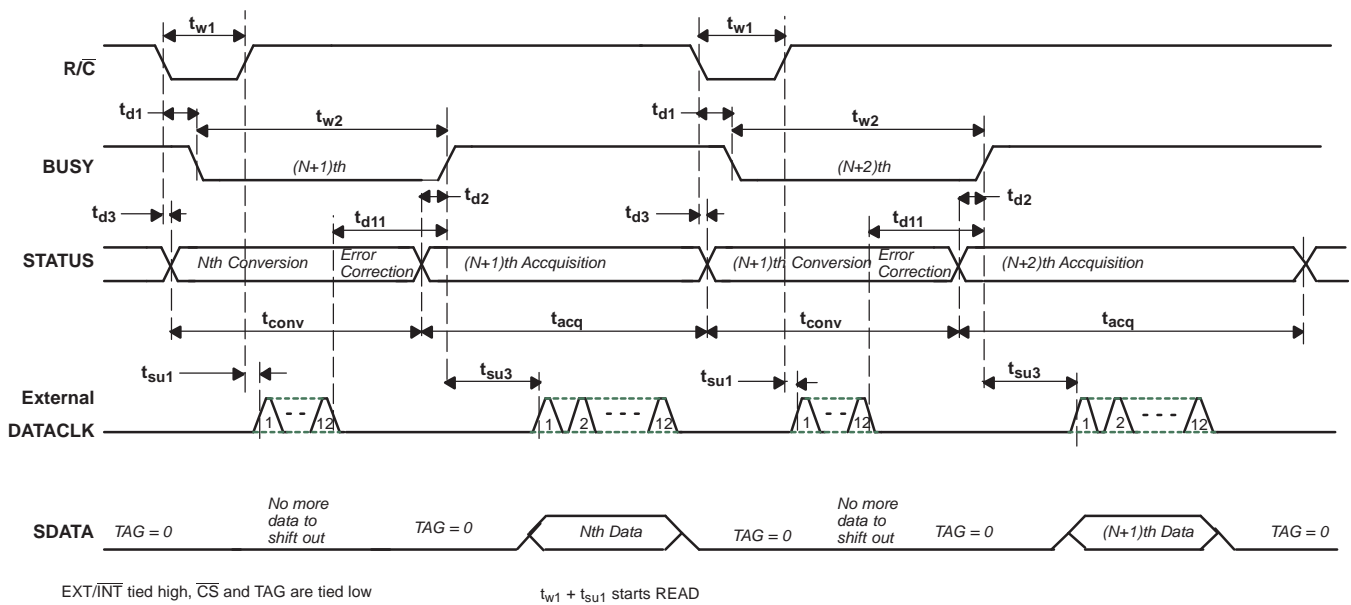
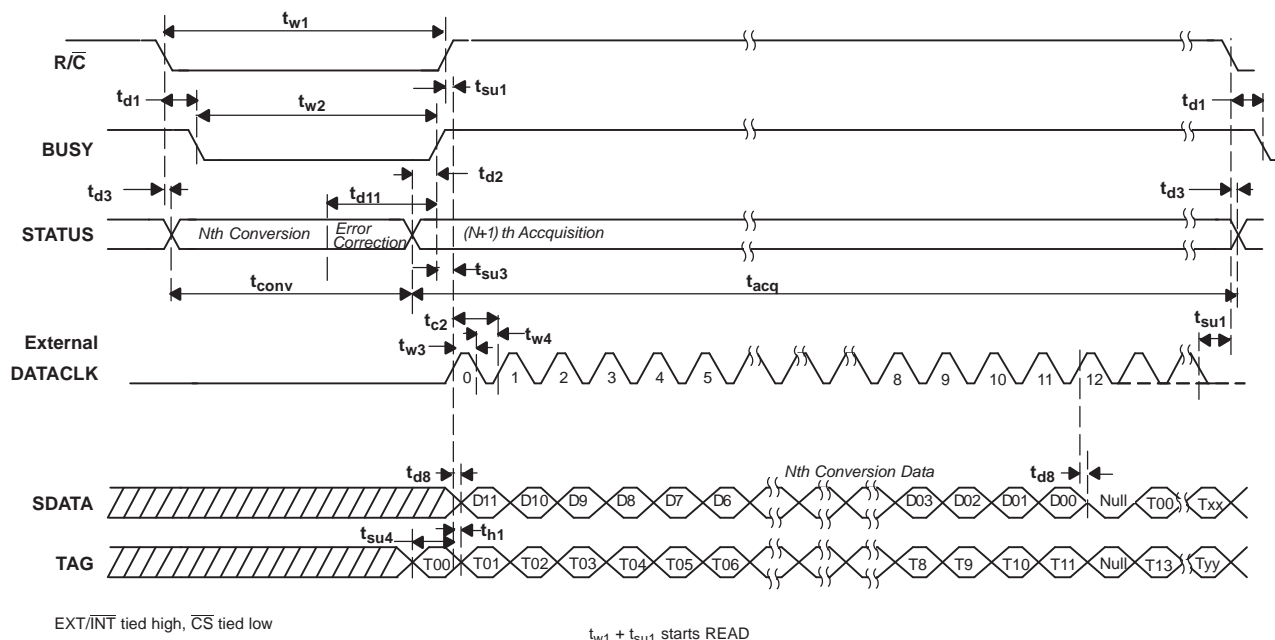
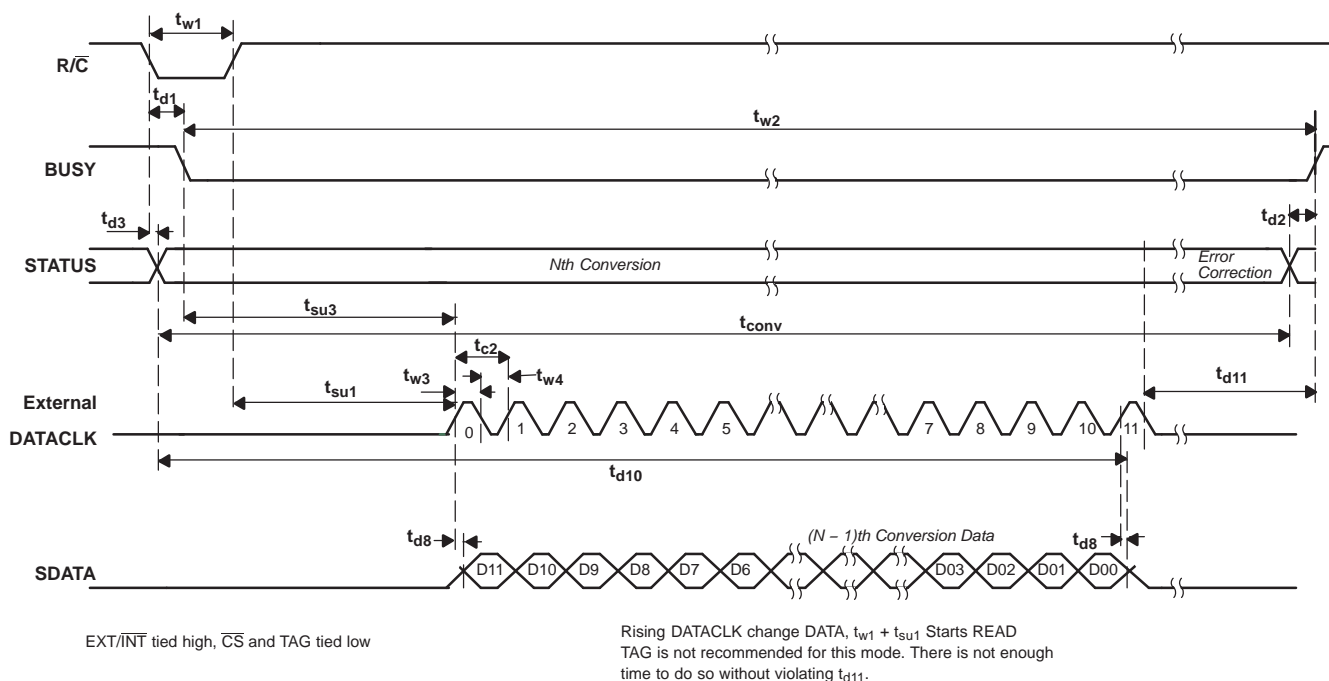

Figure 37. Basic Conversion Timing - External DATACLK
Figure 38. Read After Conversion (Discontinuous External DATACLK)
Figure 39. Read During Conversion (Discontinuous External DATACLK)
(1) See Figure 37, Figure 38, and Figure 39 for constraints on data valid from conversion $N-1$.
After conversion N is completed and the output registers have been updated, $\overline{\text{BUSY}}$ (pin 24) goes high. With $\overline{\text{CS}}$ low and $\text{R}/\overline{\text{C}}$ high, valid data from conversion N is output on SDATA (pin 19) synchronized to the external data clock input on DATACLK (pin 18). The MSB is valid on the first falling edge and the second rising edge of the external data clock. The LSB is valid on the 12th falling edge and 13th rising edge of the data clock. TAG (pin 20) inputs a bit of data for every external clock pulse. The first bit input on TAG is valid on SDATA on the 13th falling edge and the 14th rising edge of DATACLK; the second input bit is valid on the 14th falling edge and the 15th rising edge, etc. With a continuous data clock, TAG data is output on SDATA until the internal output registers are updated with the results from the next conversion. Refer to Table 6 and Figure 38.
After conversion N has been initiated, valid data from conversion $N-1$ can be read and is valid up to 12 μs after the start of conversion N . Do not attempt to clock out data from 12 μs after the start of conversion N until BUSY (pin 24) rises; this results in data loss. NOTE: For the best possible performance when using an external data clock, data should not be clocked out during a conversion. The switching noise of the asynchronous data clock can cause digital feedthrough degrading the converter's performance. Refer to Table 6 and Figure 39.